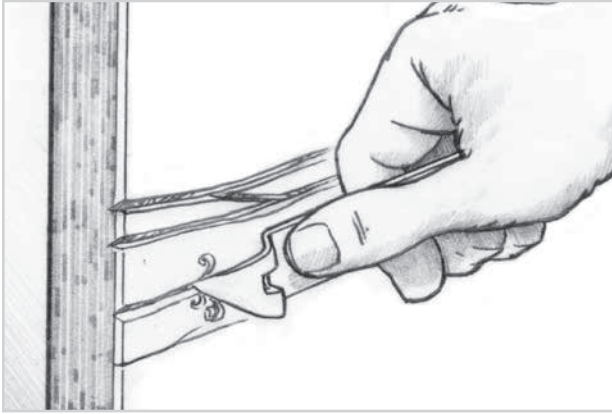

Figure 2-2 Open shallow and minor cracks with a “V”-shaped scraper, such as a sharpened can opener.
3. Open the cracks for repair. Use a sharpened “V” shaped tool to scrape down to the bottom of the cracks (Figure 2-2). A puncture-type can opener with the tip sharpened to about 90° works well. Beveling the sides of the crack provides more bonding area for the repair. It may be more effective to grind out an entire area of many, closely spaced or